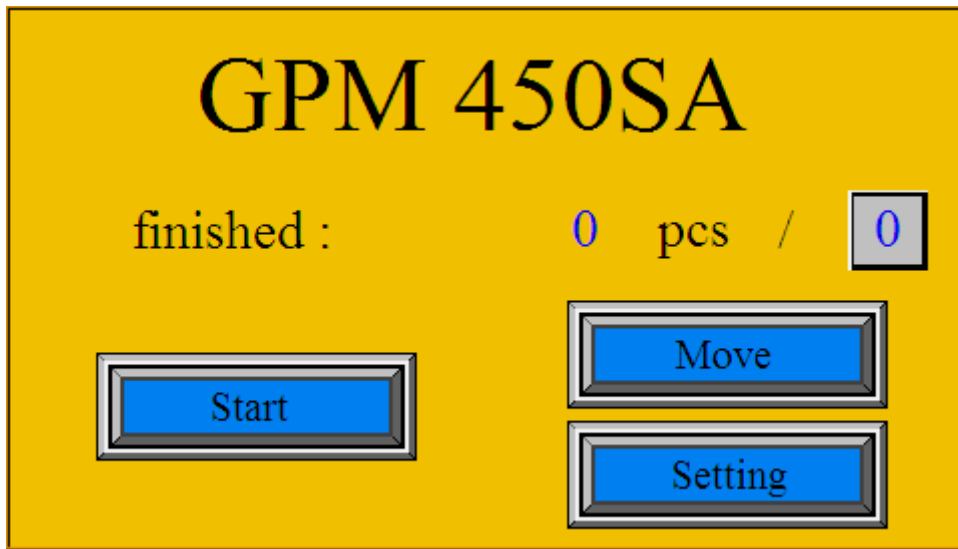

Fig. 1: The Main screen
After the power supply switch has been turned on, the display shows the basic menu (fig.1)
You can either choose a preset program or create your setting. First you have to adjust the movable left side guide (4) on the feeding table according to the paper size. Between side guides we either remove or add magnetic strips (5) which prevent paper from deflection. Then we have to set the distance of the magnetic stop (11) on a delivery table according to the paper size. Press the "**Start**" icon on the screen (fig. 1). The machine starts up and the working cycle screen is displayed (fig. 6). There are a "**Stop**" icon and information about the number of processed sheets displayed on the screen.